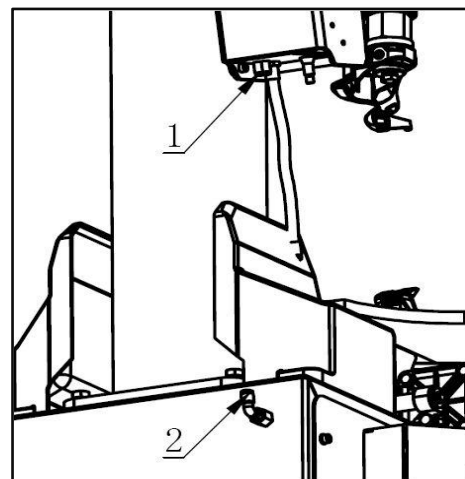

FIG8
3.2.5 Take out the inflation gun then connect it the open nut and tighten it (FIG8). Hang the gun to the hook after installation.